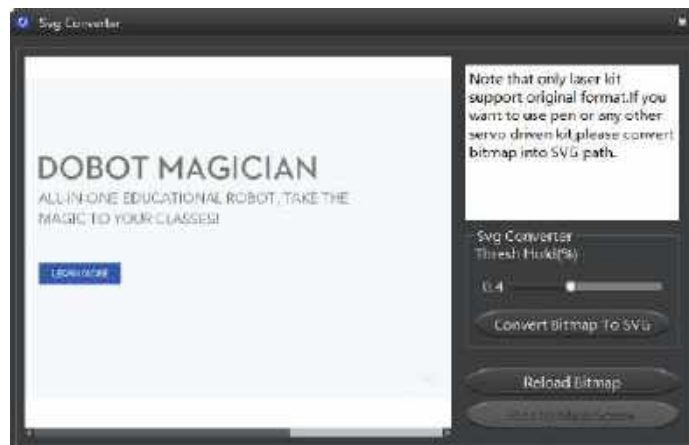

Figure 5.64 Convert Bitmap to SVG
- Click **Open** to import an image file such as BMP, JPEG, or PNG to convert this image to its corresponding SVG file that the DobotStudio supports. Once this image is imported, the **SVG Converter** dialog box is displayed, as shown in Figure 5.64. In this dialog box, drag the slider to set the black and white threshold, and click **Convert Bitmap To SVG** to perform the conversion, and then click **Plot to Main Scene** to display the converted SVG file on the annular area of the **Write & Draw** page.